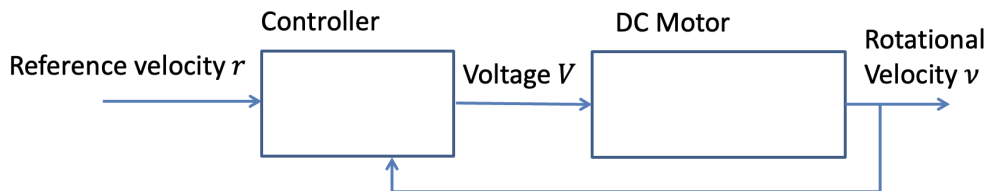

Figure 4: Fill this diagram with the appropriate equations.
- (k) Using the equations you derived, write the continuous-time state-space model of the DC motor with input voltage V and states ω (angular velocity) and I (current). A template is shown in Figure 4.